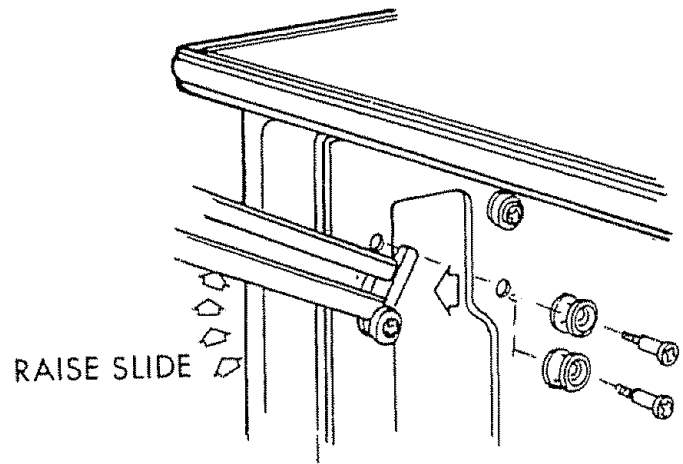

FIGURE 79
2. Remove racks by raising rack and slides until slides will pass the new rollers. (Figure 79)